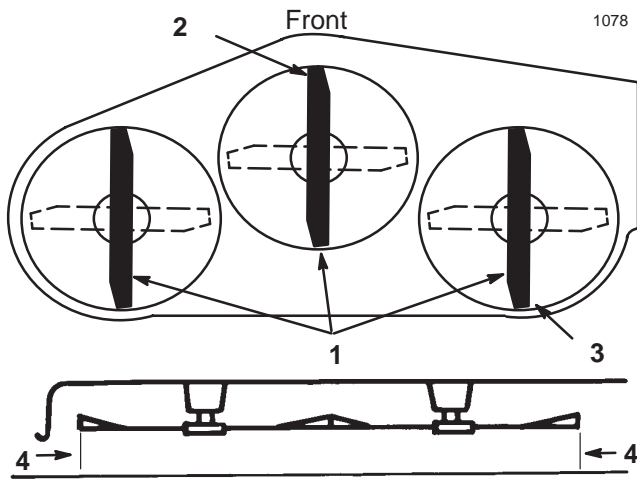

Figure 40
5. Set the height-of-cut at 3 inch (76 mm) and carefully rotate the blades so they are facing front to rear (Fig. 40).
6. Measure between the tip of the front blade (Fig. 40) and the tip of the rear blade to the flat surface. If the front blade tip is not 1/16–5/16 inch (1.6–7.9 mm) lower than the rear blade tip, adjust the front trunion rods.
9. After adjusting both trunion rod yokes evenly, secure the yokes with the hairpin cotters. Check the front-to-rear level again. Continue adjusting the yokes until the front blade tip is 1/16–5/16 inch (1.6–7.9 mm) lower than the rear blade tip (Fig. 40).